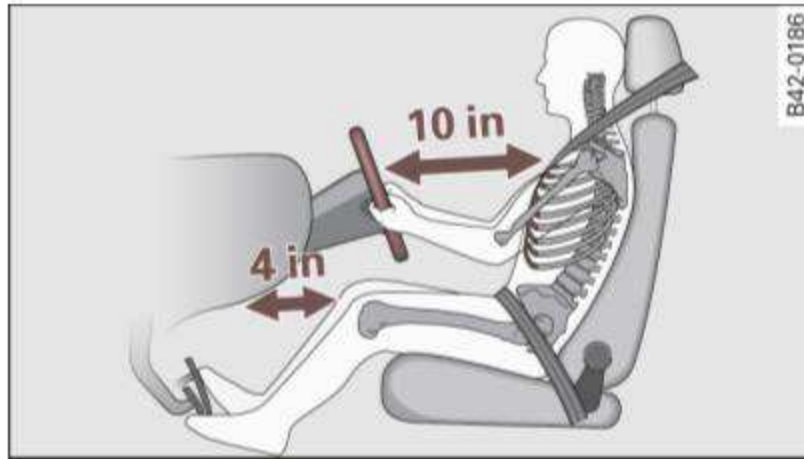

Fig. 84 The correct distance between driver and steering wheel
- Adjust the steering wheel so that there is a distance of at least 10 inches (25 cm) between the steering wheel and your breast bone ⇒ fig. 84.